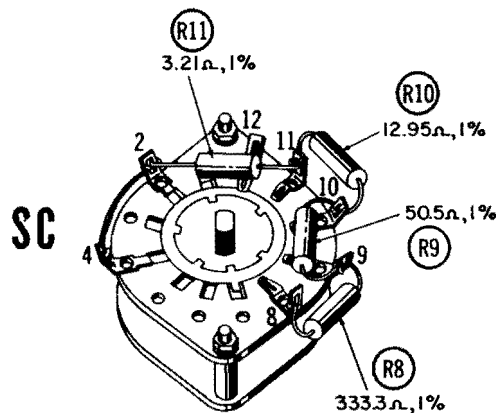

FIGURE 3
REFER TO FIGURE 3.
- (✓) 27. Connect R9 ( $50.5\Omega$ , 1% carbon precision resistor) from SC 9 (Solder) to SC 10 (Don't Solder). Position this resistor to inside of switch so resistor leads will clear side of chassis when mounted. See Figure 3.